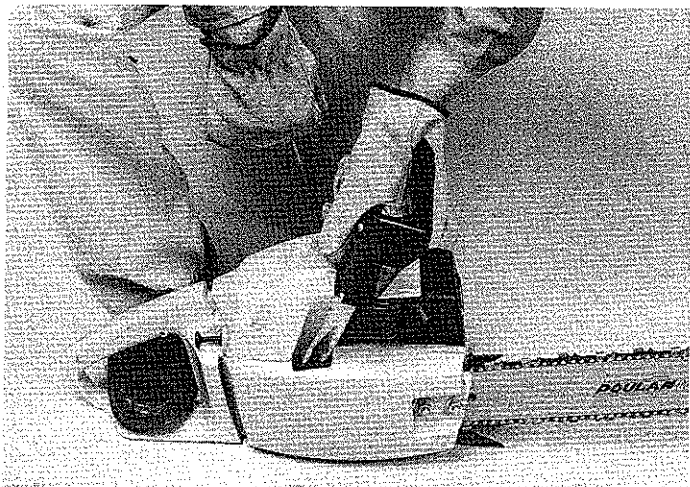

Figure 7
6. Kneel on left knee, grasp Handlebar with left hand and Starter Handle with right hand. (See Figure 7).